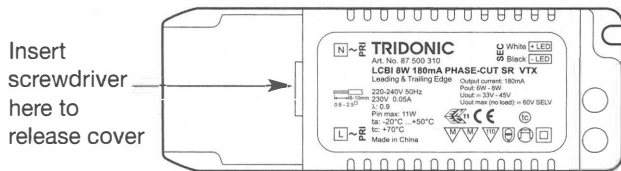

fig 1.
- Remove the terminal cover on the driver by inserting a screwdriver into the gap and prizing back the cover. (see fig 1.)